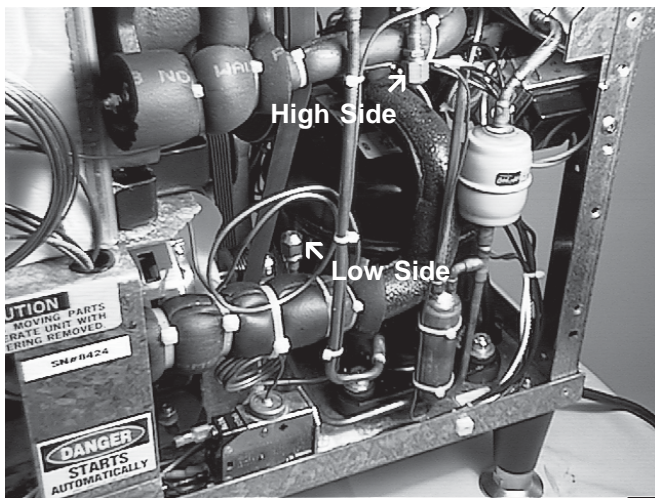

Figure 18. Access Ports
2. Remove the cap from the low side schrader valve and install a 0 - 100 PSIG gauge. Figure 18.